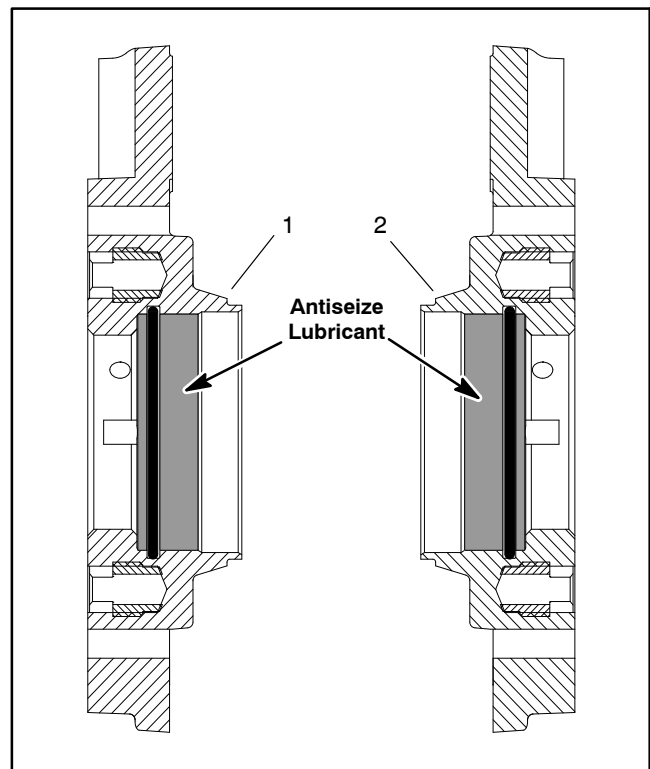

Figure 38
4. Apply a thin coat of antiseize lubricant to the reel bearing bore of each side plate (Fig. 38).